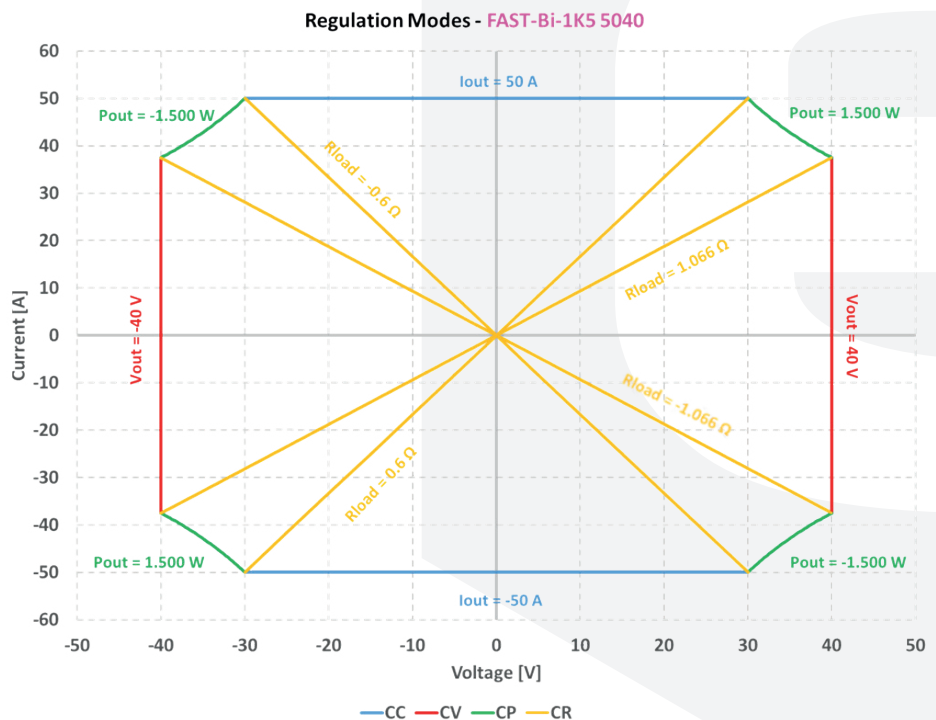

Figure 2: V-I operation of the FAST-Bi-1K5 5040
The operation in the V-I plane of the unit is shown in **Figure 2**. As it can be seen, the operation can take place at any point of the four quadrants of the V-I plane as long as it is within the vertical lines of $V_o = 40$ V and $V_o = -40$ V (CV), the horizontal lines of $I_o = 50$ A and $I_o = -50$ A (CC) and the curves of constant power $P_o = 1.500$ W and $P_o = -1.500$ W (CP). Two sample lines are shown